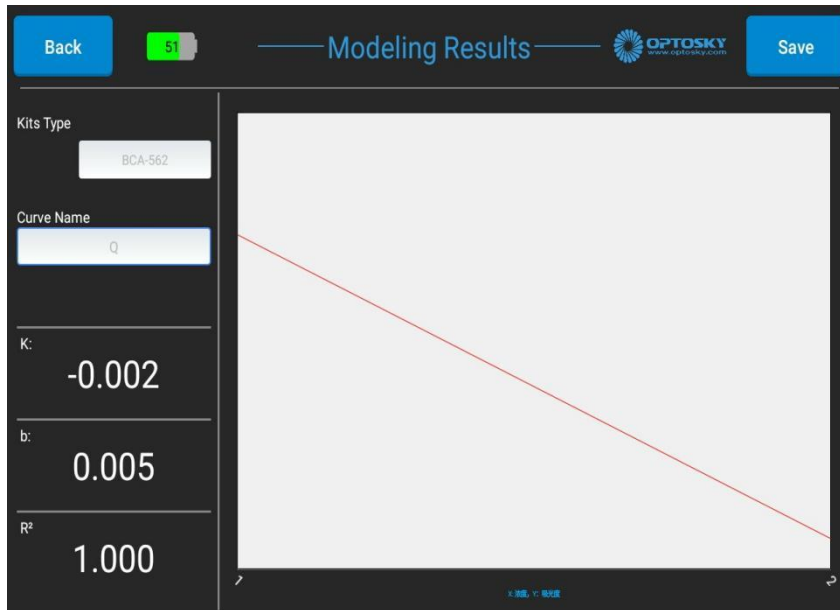

Figure 12: Modeling Result Interface
7. Finally, the standard solution of at least two points should be prepared according to the instruction of the kit. In order to accurately prepare more than 5-7 points, We can freely add or reduce the points of standard products on the interface, and test them successively according to the equipped concentration from low to high. First input the concentration, and then click Test. The six values can be tested repeatedly, and the instrument will perform a linear fit based on the final mean. The results after fitting will be displayed on the modeling result interface as shown in Figure 12. The instrument is very intuitive K value、b value、 R^2 , in order to make sure R^2 value More than 0.99 can be used, After building and saving, You can select the desired standard curve at the standard curve of our kit detection interface for application. The concentration of the tested sample must be within the linear range of the standard curve, beyond which dilution or concentration is required.